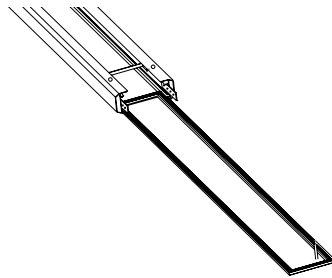

Figure 5
- 7** Install the light panels one at a time into section A as shown in figure 5.